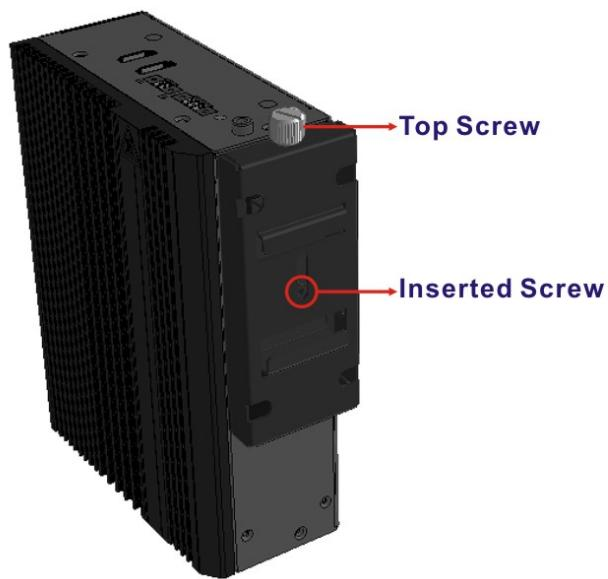

Figure 3-24: Screw Locations
Step 2: Make sure the inserted screw in the center of the bracket is at the lowest position of the elongated hole (Figure 3-24).